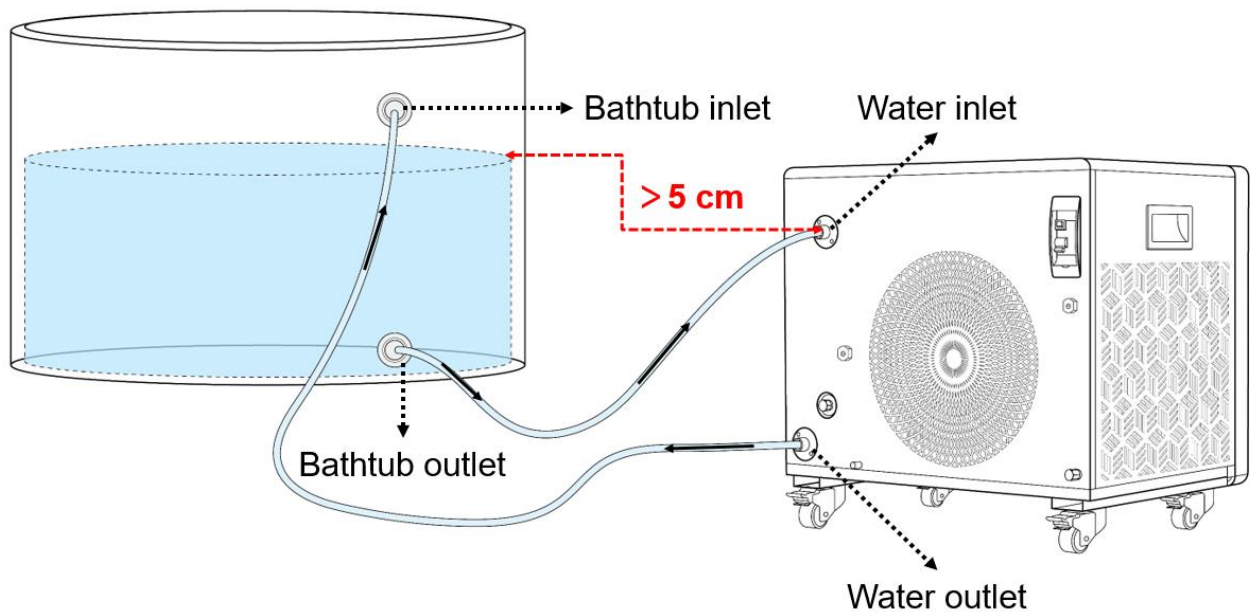

Figure 2. Chiller and bathtub connection setup
2. Connect the hoses to the tub's water ports. (See Figure 2). Ensure all connections are tight. Then open the inlet and outlet valves. Note: "+" means closed, "-" means open.